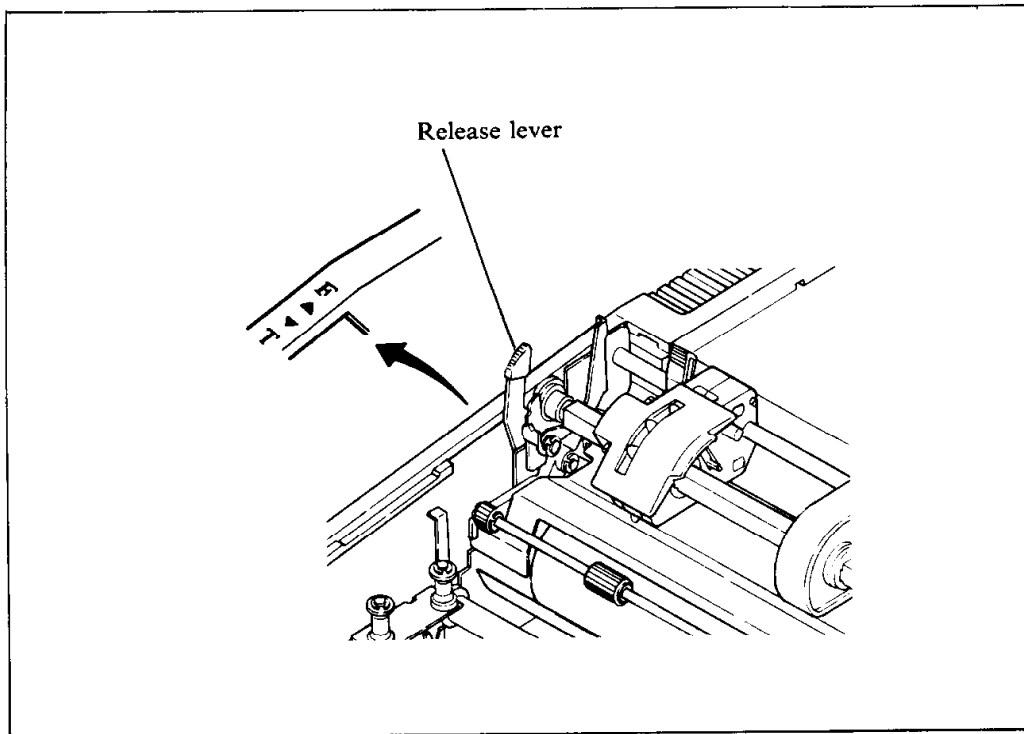

Figure 2-4. The paper release lever has two settings: “F” for friction feed and “T” for tractor feed.
2. Pull the release lever to position "T" (Figure 2-4).